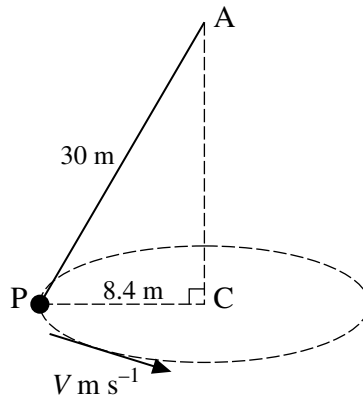

Fig. 2.1
- 2 (a) A particle P, of mass 48 kg, is moving in a horizontal circle of radius 8.4 m at a constant speed of  $V \text{ m s}^{-1}$ , in contact with a smooth horizontal surface. A light inextensible rope of length 30 m connects P to a fixed point A which is vertically above the centre C of the circle, as shown in Fig. 2.1.